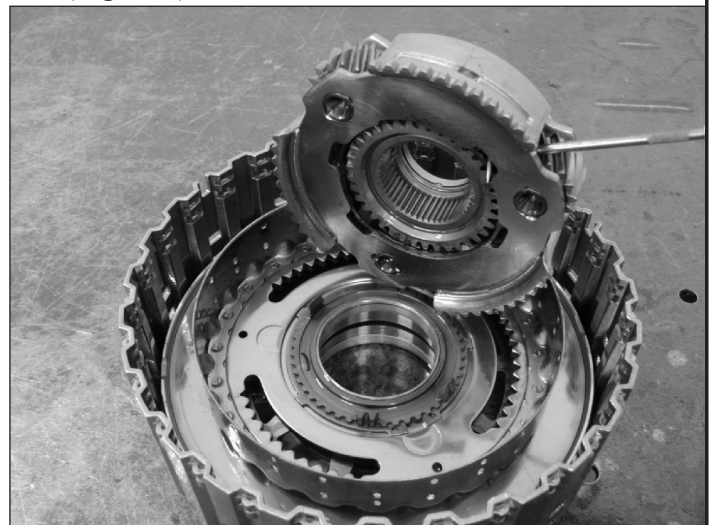

Figure 3
**The single planetary (input) carrier** is located behind the front pump (Figure 3). Its sun gear (#1) splines to the pump stator support holding it stationary at all times (Figure 4). The internal ring gear is being driven by the turbine (input) shaft through the E clutch drum as the drum has the internal ring gear on the back side of it (Figure 5).
The carrier is then linked to the A clutch drum as seen in figure 3. So the front powerflow begins with the turbine shaft being driven by the converter which drives the internal ring gear that is integral to the turbine shaft. The internal ring gear then drives the pinions around the stationary sun gear causing the carrier to drive the A clutch drum in a reduction. When the A clutch applies, it will then drive a rear sun gear (#3) in the rear planetary in that reductive rotation. When the B clutch applies, it locks onto the A clutch drum which then drives a front (or middle #2 ) sun gear in the rear planetary in the same reductive speed.